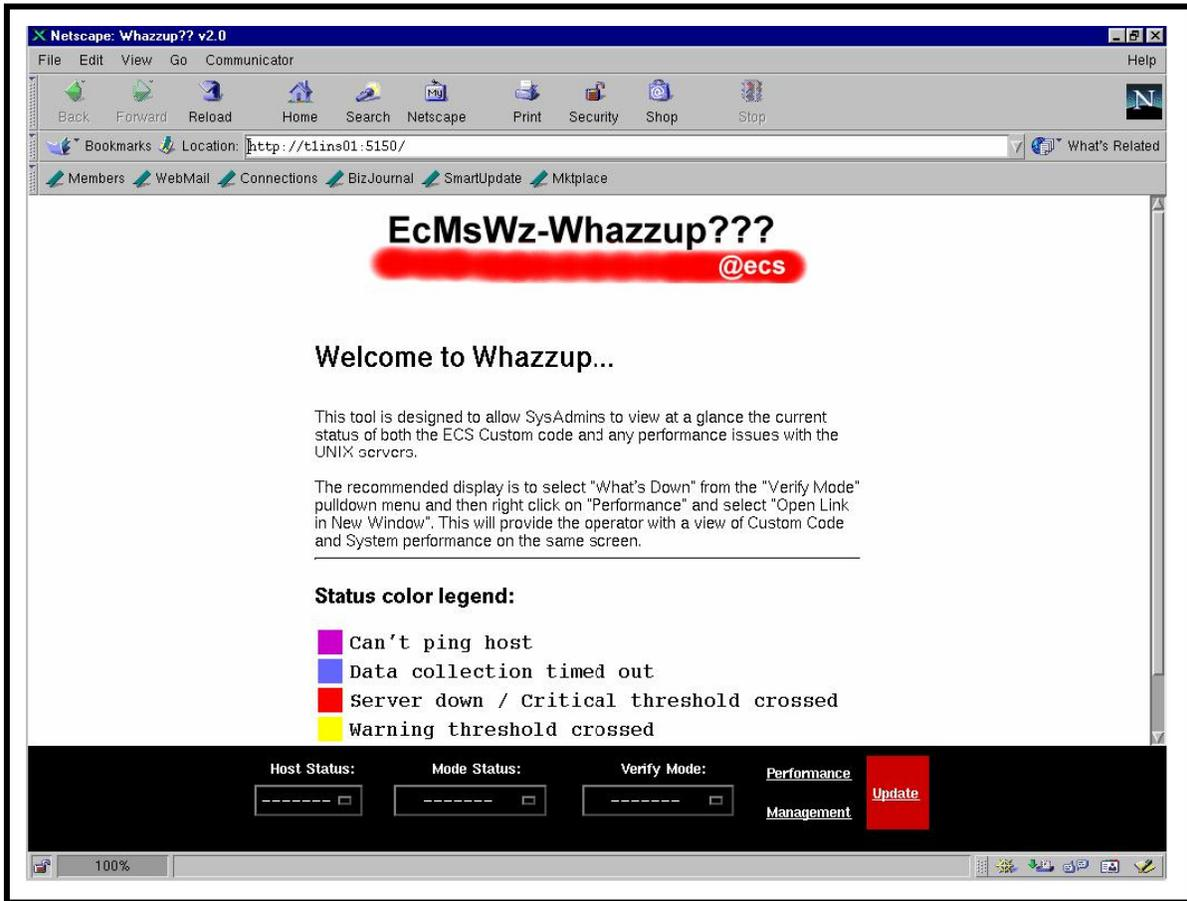

Figure 12. WHAZZUP Monitor GUI
- A GUI such as the one depicted in Figure 12 should appear on the terminal screen.